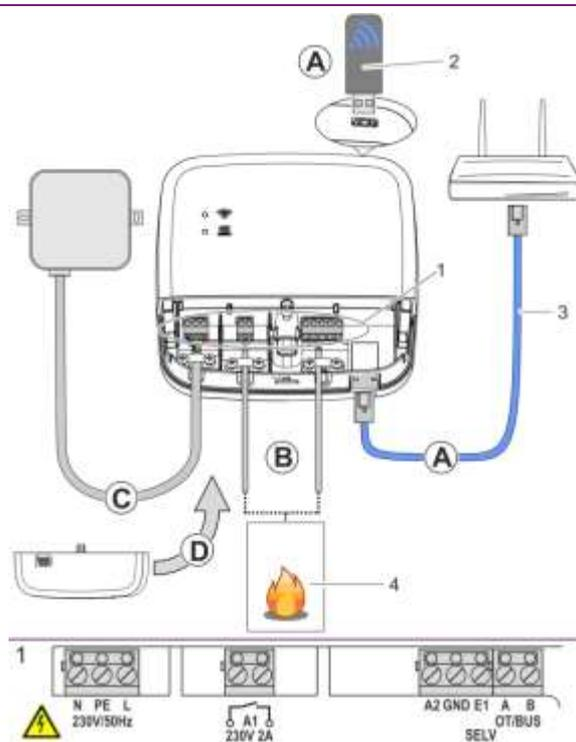

Fig.: 6 Connection **heatapp! base**
- B** Connect the heat source (Fig.: 6 Connection **heatapp! base**, item. 4, optional) according to the terminal configuration on the **heatapp! base**.